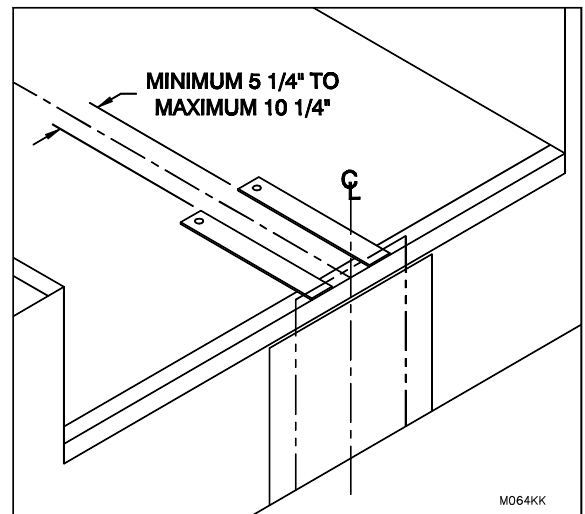

Figure 13: Horizontal Lag Plate Location
- b) The horizontal lag plates must be positioned centered behind the back plate and parallel to each other; not more than $10\frac{1}{4}$ " apart and not less than $5\frac{1}{4}$ " apart (This variation allows for avoiding any shims which may be present under the front angle). See "Figure 13: Horizontal Lag Plate Location" on page 18.
- g) Because there is no gap between the front angle of the dock leveler and the dock leveler pit floor, the horizontal lag plates and restraint back plate must both be welded to the dock leveler front angle. Position the horizontal lag plates directly behind and perpendicular to the back plate of the restraint, butted up against the front angle of the dock leveler. They must be parallel to each other; not more than $10\frac{1}{4}$ " apart and not less than $5\frac{1}{4}$ " apart. See "Figure 13: Horizontal Lag Plate Location" on page 18.
- j) Position the horizontal lag plates into the position as noted in item 1.g).